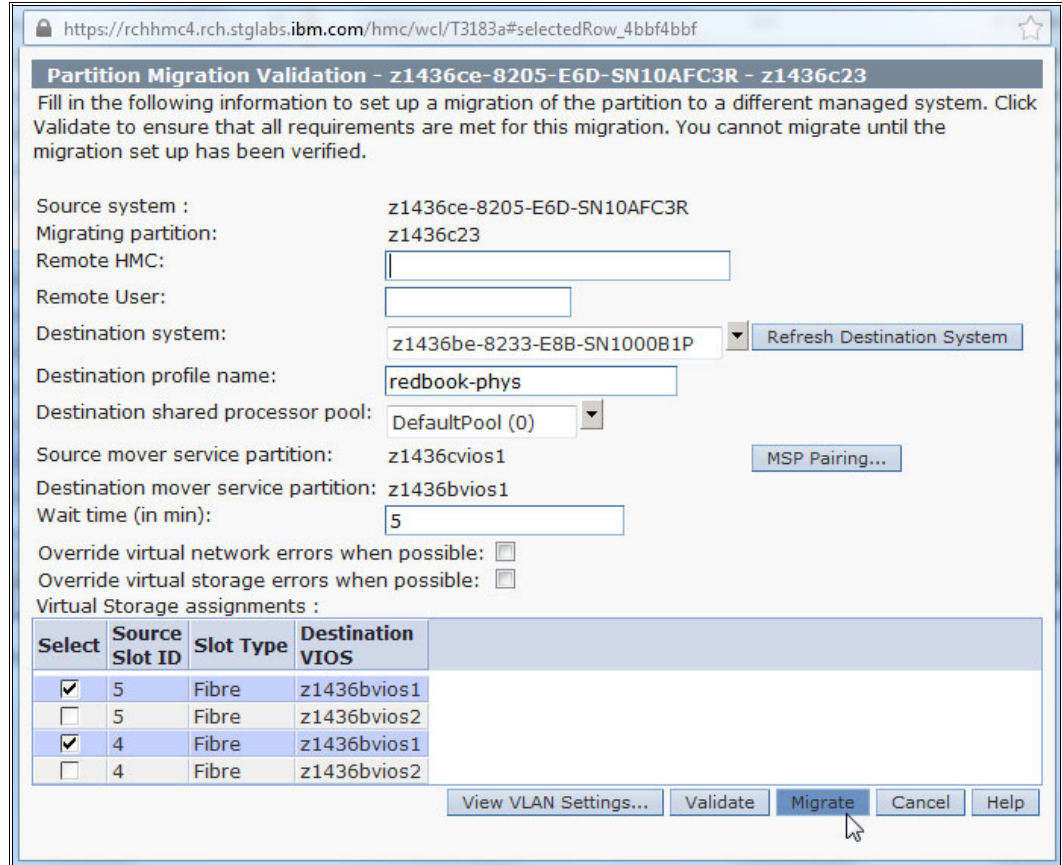

Figure 5-15 Live Partition Mobility, starting migration
- After the validation finishes without errors, you can start the migration by clicking **Migrate** as shown in Figure 5-15. If there are multiple VIO servers available on the target system to provide I/O for the migrated LPAR, the Live Partition Mobility process provides a suggestion for the virtual storage assignment. This predefined setting can also be changed.